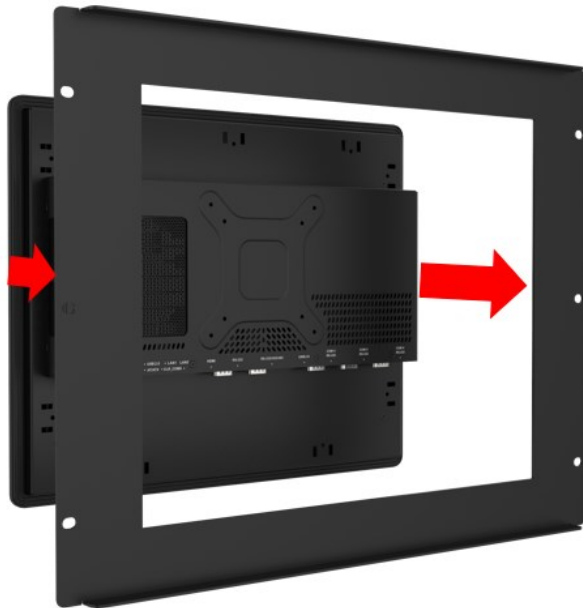

Figure 3-23: Machine mounted to panel
Step 3: Slide the PPC2-Cxxx-EHL Series through the hole until the aluminum frame is flush against the panel (**Figure 3-23**).